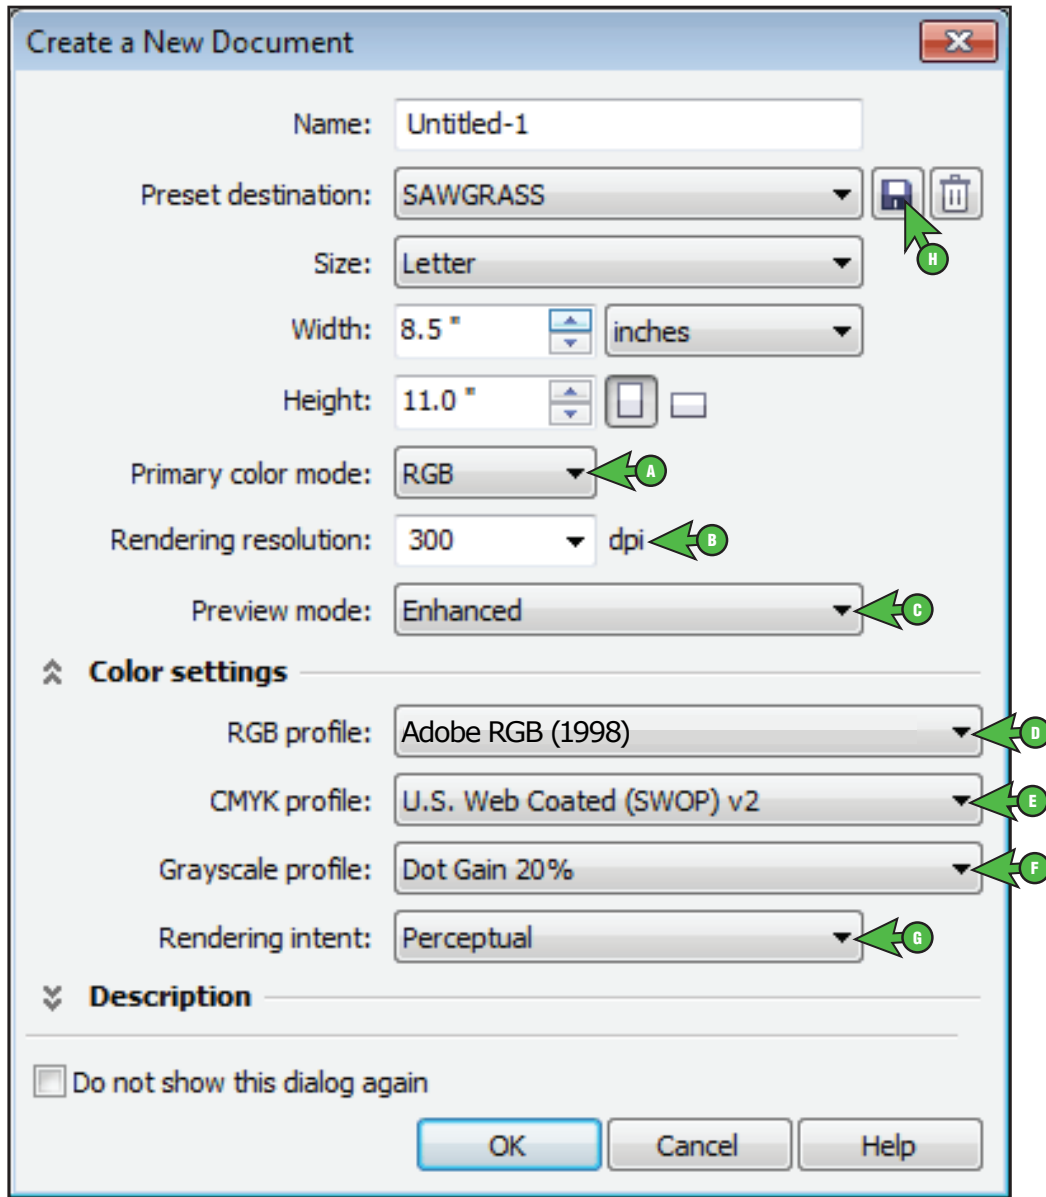

FIGURE 2
2.) Configure a New Document Workspace: (see FIGURE 2)